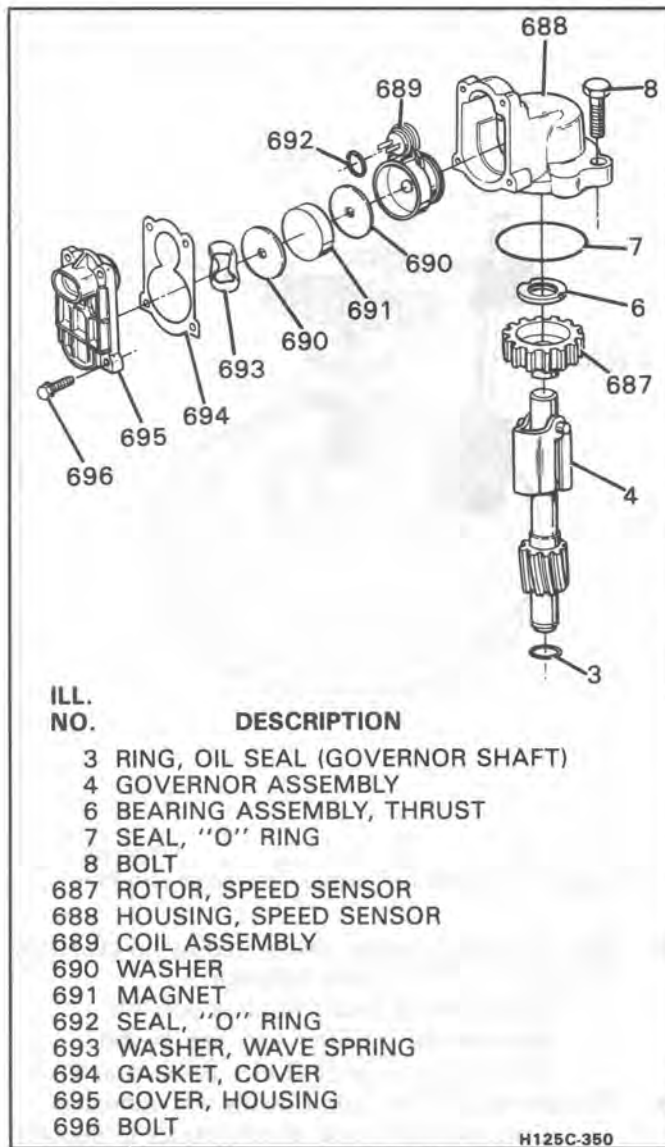

Figure 109A - Governor and Internal Transaxle Speed Sensor
- "O" ring (11) onto sleeve (12)
- Gear (10) into sleeve (12)
- Sleeve (12) into cover (9)
- Retainer (13)
- Bolt (14)
- Torque the screw (14) to 9 N·m (75 inch pounds)
**Inspect (Figure 109A)**
- Governor (4) for
- Rotor (687) for
- Damaged bearing (6)
**Install or Connect (Figure 109A)**
- Governor assembly (4) into case
- Rotor (687) onto governor assembly
- Bearing (6) onto rotor
- New oil seal (7) onto housing (688)
- Housing (688) onto case--governor shaft must pilot in the housing
- Bolt (8)
**Disassemble (Figure 109A)**
- Screws (696)
- Cover (695) and gasket (694)
- Wave spring washer (693), washers (690) and magnet (691)
- Coil assembly (689) and "O" ring (692)
- Housing (688) and cover (695) for porosity or cracks
- Gaskets (694) and "O" ring (692) for damage
- Coil assembly (689) for missing or damaged
- Washer (690)
### ↔ Install or Connect (Figure 109A)